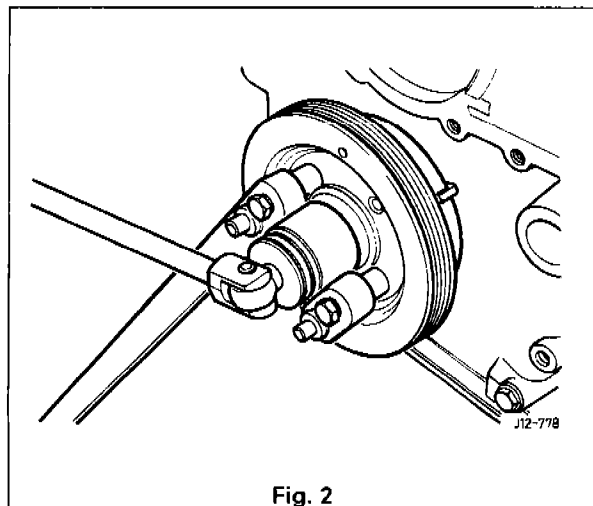

Fig. 2
- Prize the seal from the timing cover using a screwdriver (Fig. 2).